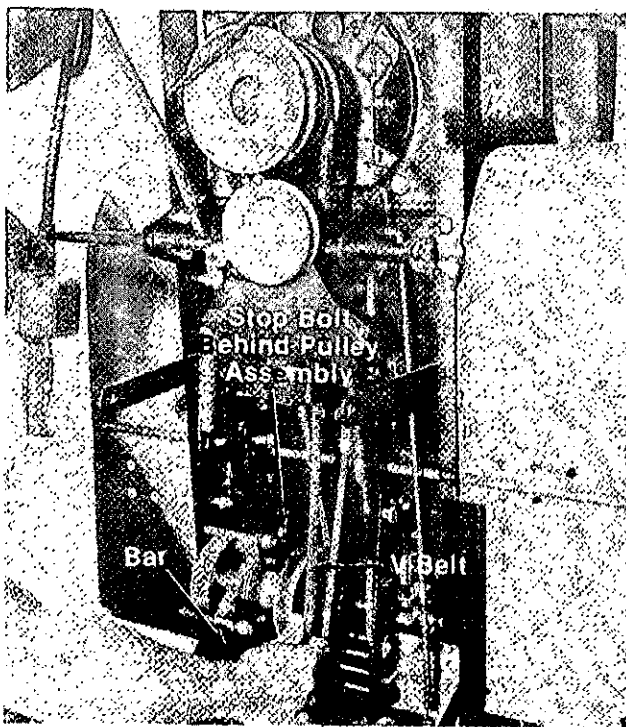

FIGURE 26.
6. Using a bar or large screwdriver, pry the pulley assembly towards the front of the tractor and unhook the belt from the pulley. (See figure 26.)